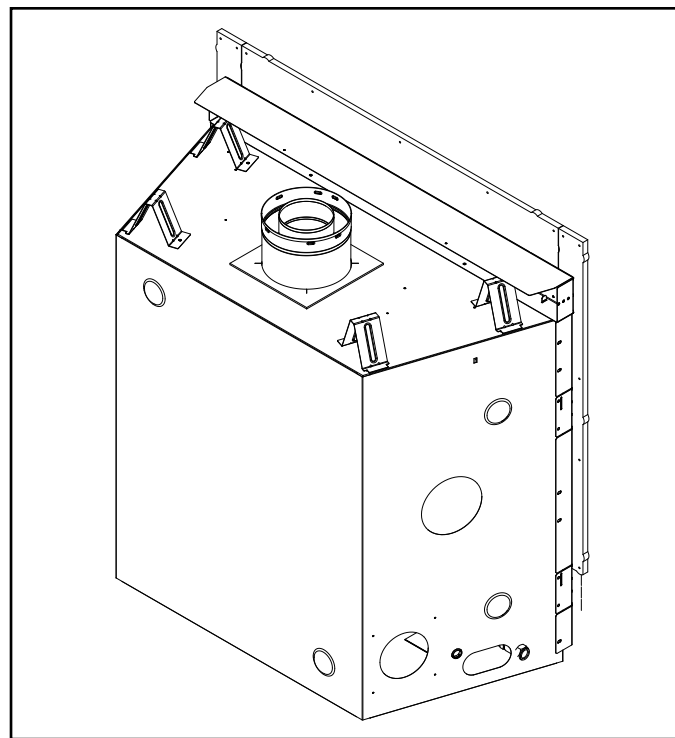

Figure 6.4 JADE32IN - Shipping Support and Seal Cap Removed
2. Remove and discard shipping support, seal cap, and screws. See Figure 6.4.